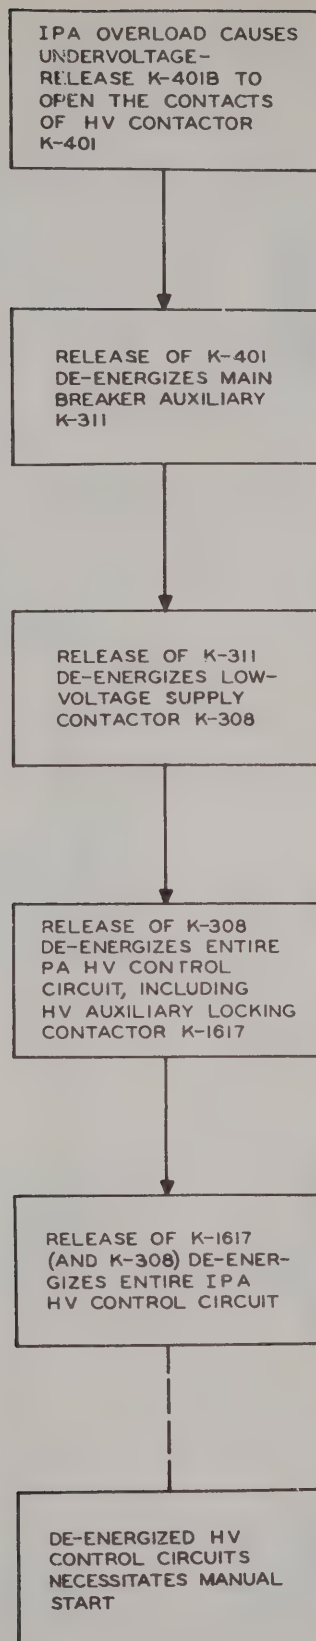

Figure 130. IPA Overload Sequence, Within Non-Automatic Restart Interval, Block Diagram.
- (k) The operation of K-1619 energizes hv auxiliary relay K-1621. It will be noted that the plate-start-locking hv-auxiliary relay K-1617 is energized through contacts of K-1619, K-1621, and/or K-320. Thus when the main breaker closes, the interlock path changes from the normally-closed contact on K-1621 to the normally-open contact on K-1619 without interruption. When K-320, the non-automatic restart relay, is energized, its contacts in this group are open so that relay K-1619 alone maintains the circuit to the locking relay K-1617. If an overload should occur which trips the main breaker, K-1701, its normally-closed contact will not reclose until a short time after main breaker auxiliary K-1619 opens. Thus there is a short time interval during which neither K-1619 nor K-1621 maintains the circuit to K-1617. Refer to Flow chart, figs. 130 and 131.